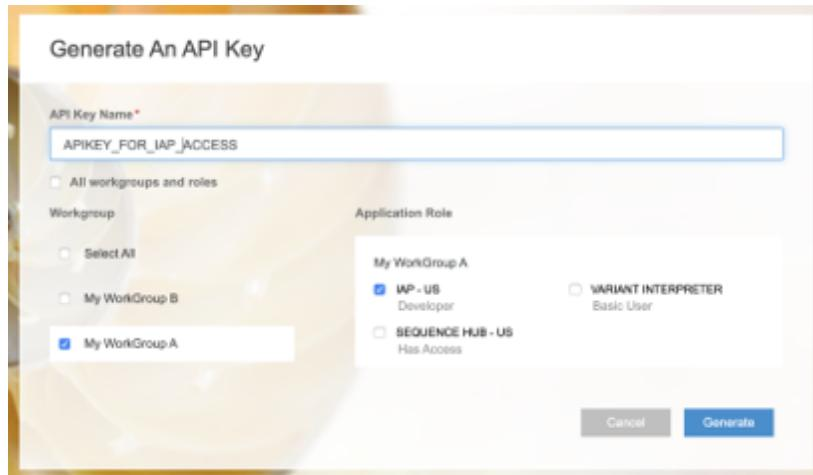

Figure 36: Generate an API Key dialog
- Click Generate to open the Generate an API Key dialog (**see Figure 36**).